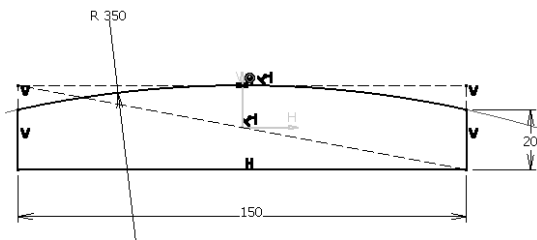

Figure 6-92 Sketch of the base feature
- Create the base feature of the model by extruding the sketch drawn on the zx plane equally on both the sides of the sketch plane, refer to Figures 6-92 and 6-93.
2. Draw the sketch of the base feature, as shown in Figure 6-92, and exit the **Sketcher** workbench.